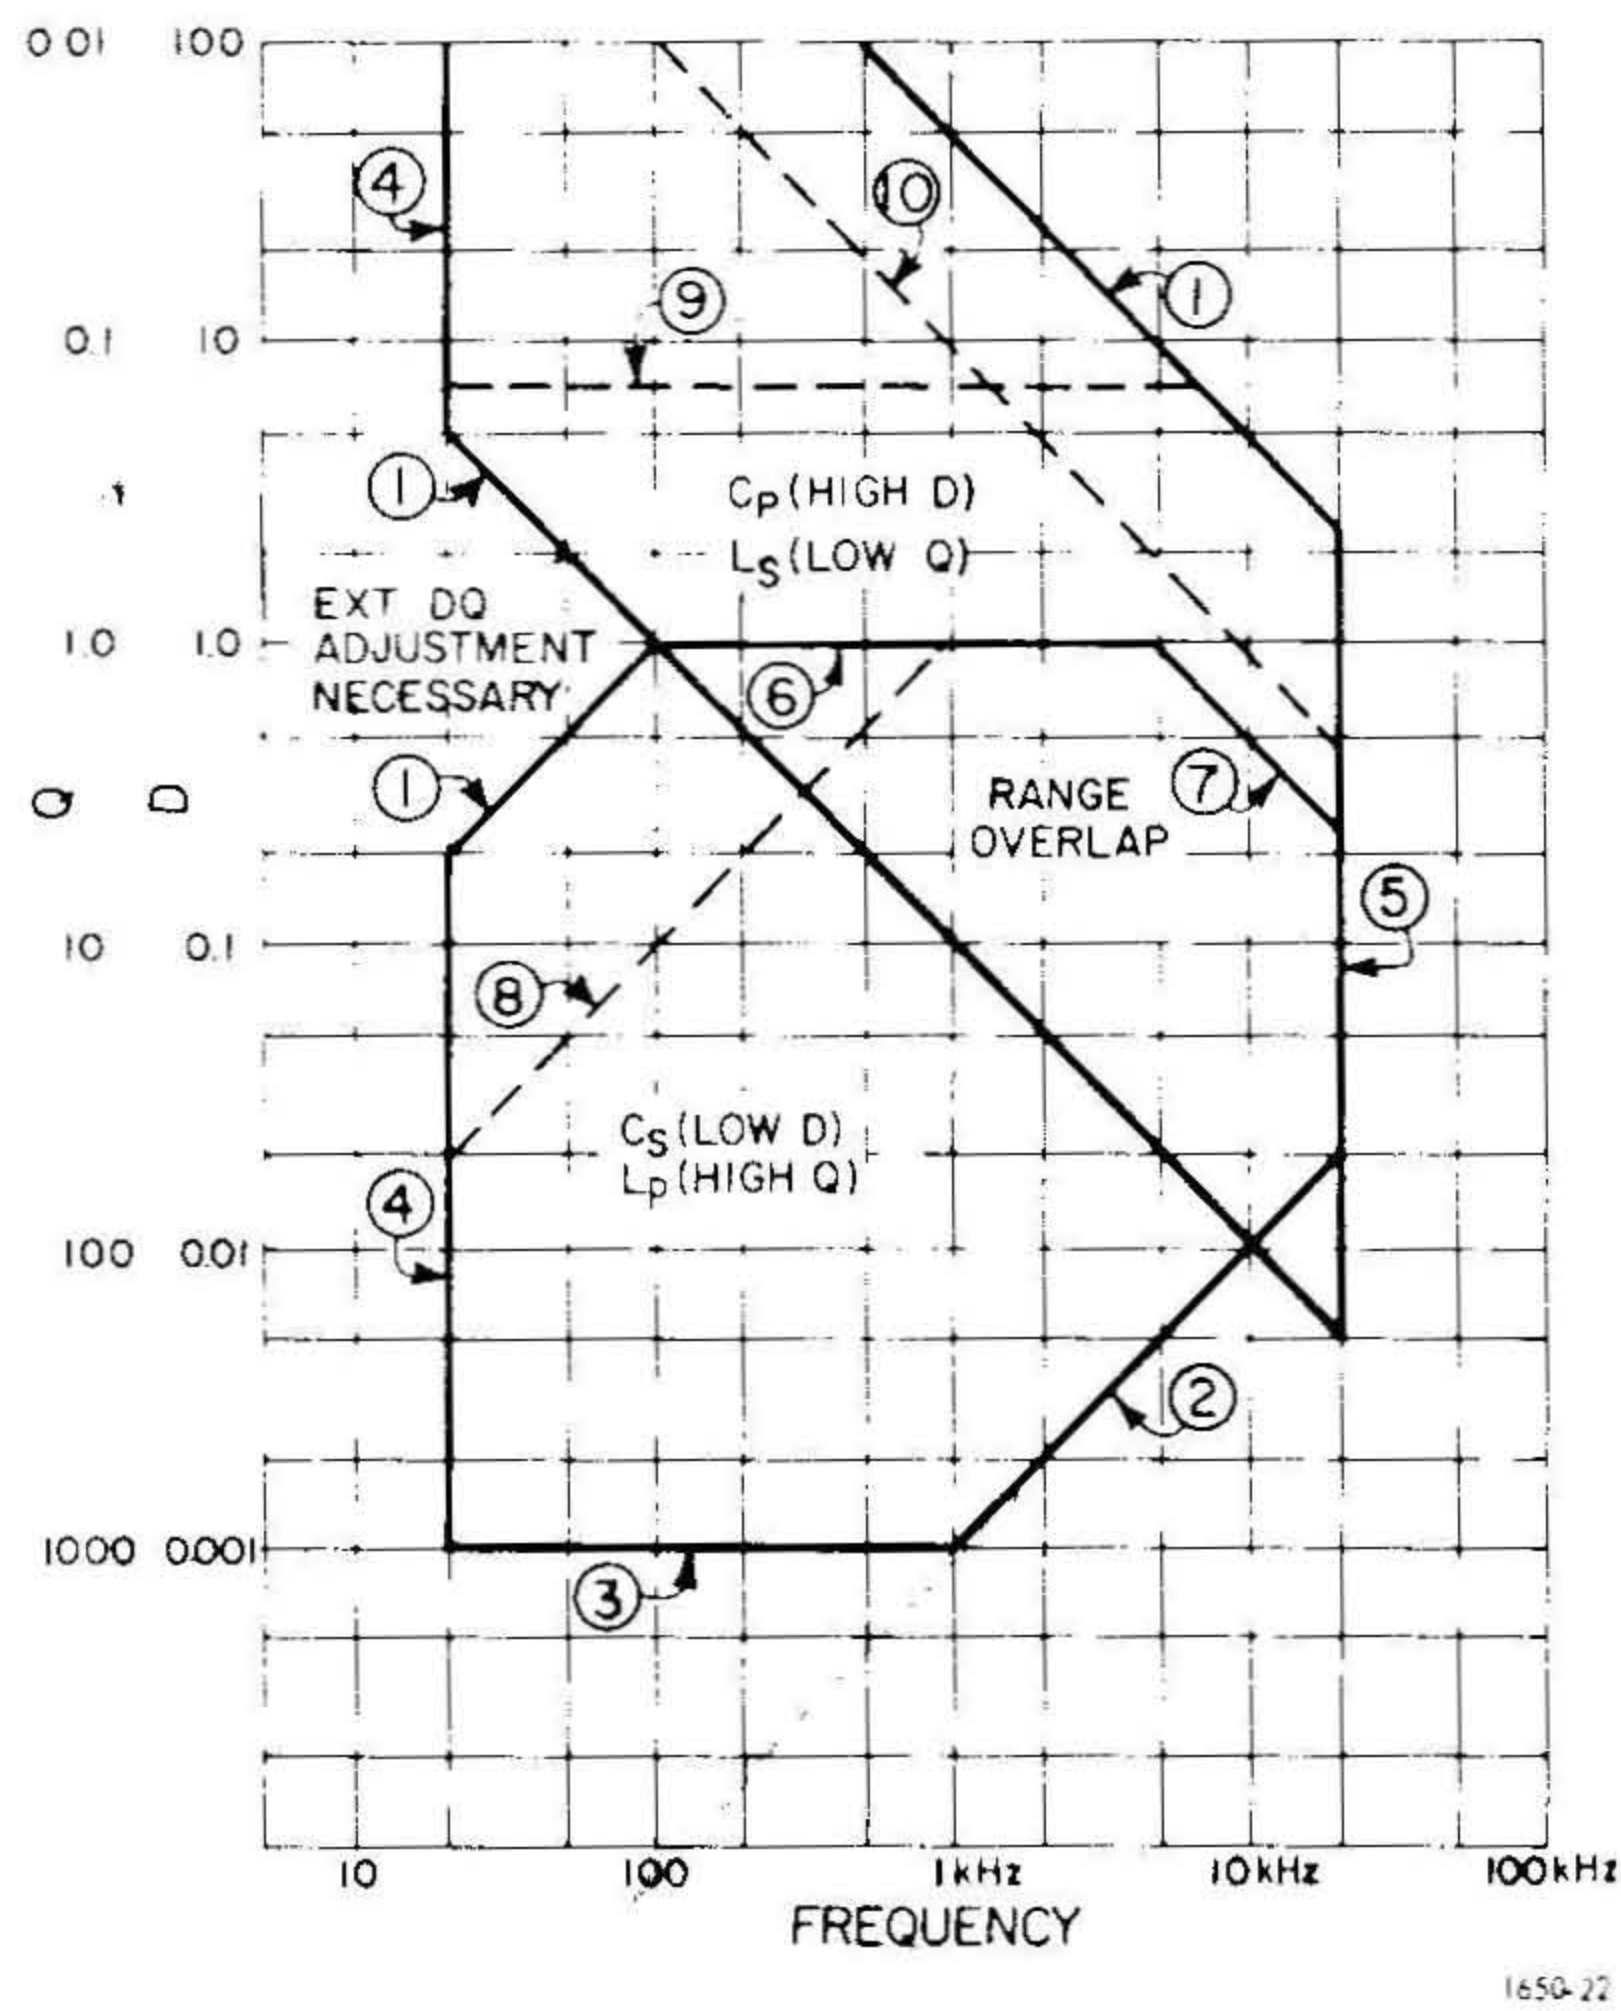

Figure 4-3. DQ ranges vs frequency.
The D and Q readings and ranges are functions of frequency. Also, in order to avoid errors in the C and L readings, the D or Q of the unknown is further limited. The resulting allowable D and Q ranges are given in terms of frequency and D or Q of the unknown at the measurement frequency in Figure 4.3.
The wide overlap of ranges (Figure 4-3) permits D and Q coverage down to 100 Hz without external adjustment. Below 1 kHz, more of the low D and high Q range can be used than is calibrated. In this region the low Q scale can be used to indicate D directly and the high D scale used to indicate Q directly with a maximum additional error of 2%.
Below 100 Hz there is a D and Q range not covered by the internal DQ adjustment. An external rheostat or decade box may be used to extend the range of any of the D or Q scales. However, to avoid error, the low D and high Q ranges should not be extended beyond a value of 1 at frequency of measurement (Figure 4-3).
1. Use the C_p and L_s bridges. These have better DQ coverage and fewer sources of error (see Figure 4.3).
*Below line 10 (extended) in Figure 4-3.